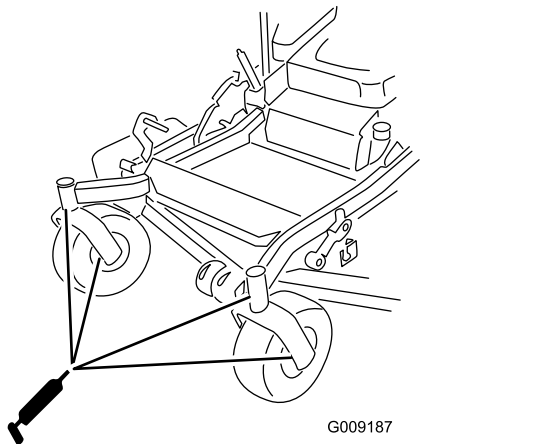

Figure 44
- Install the hex plug and dust cap (Figure 44).
- Grease the caster-wheel bearings (Figure 44).